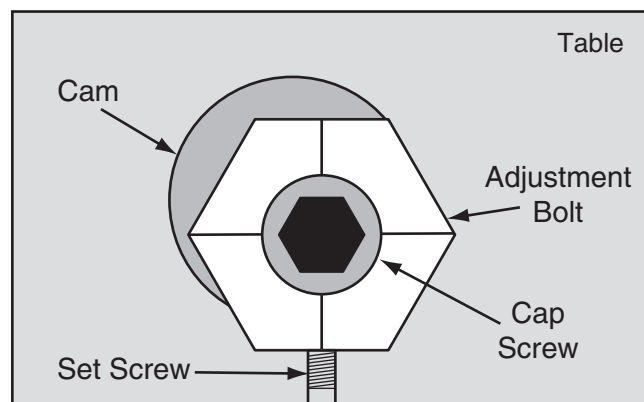

Figure 55. Illustration of the table adjustment bolt components.
4. Loosen the cap screw in the center of the outfeed table adjustment bolt three full turns, then loosen the set screw that is directly underneath the adjustment bolt (see **Figure 55**).
5. The adjustment bolt shaft is cam-shaped, as shown in **Figure 55**, and connects the table to the lifting arm. Rotate the adjustment bolt in very small increments to raise or lower the front corner of the outfeed table until the surface is the correct height above the cutterhead, as instructed in **Step 4**.
7. When the outfeed table height is correct and parallel to the cutterhead, re-tighten the adjustment bolt cap screw and set screw (see **Figure 55**), then tighten the table lock.